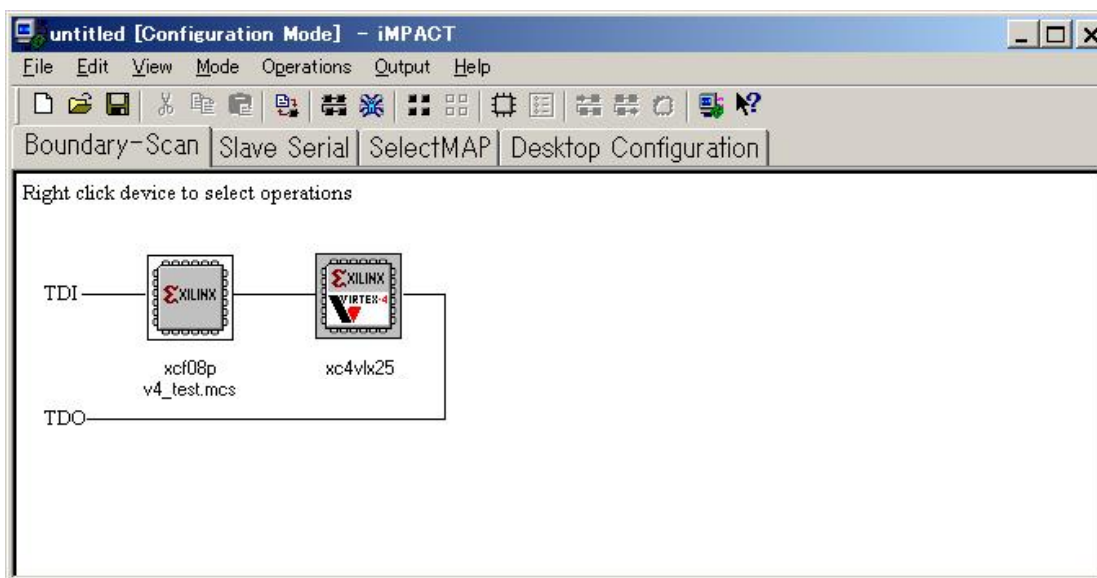

Figure.32
6) Double-click XCF08P(PROM) and then specify a bit stream file (MSC file) to be downloaded. Figure.32 shows the window after the file has been specified.